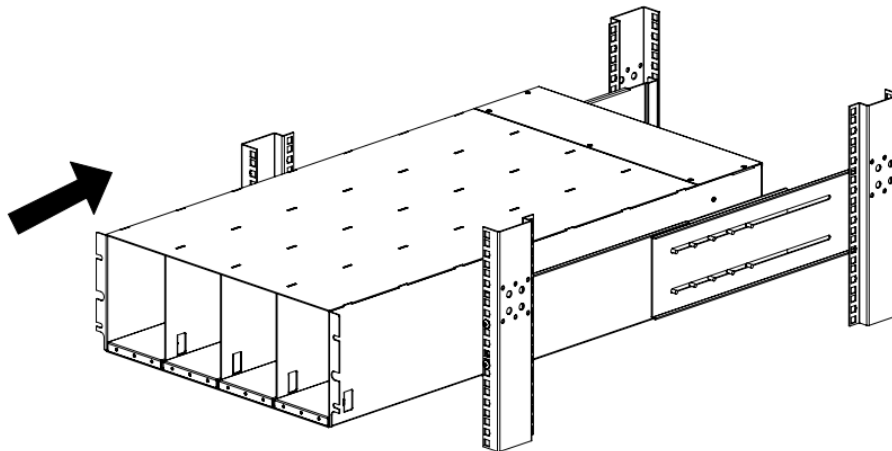

Figure 48: Slide EBP into Rack
49. Slide the EBP into the rack on the rail kit (see Figure 48).